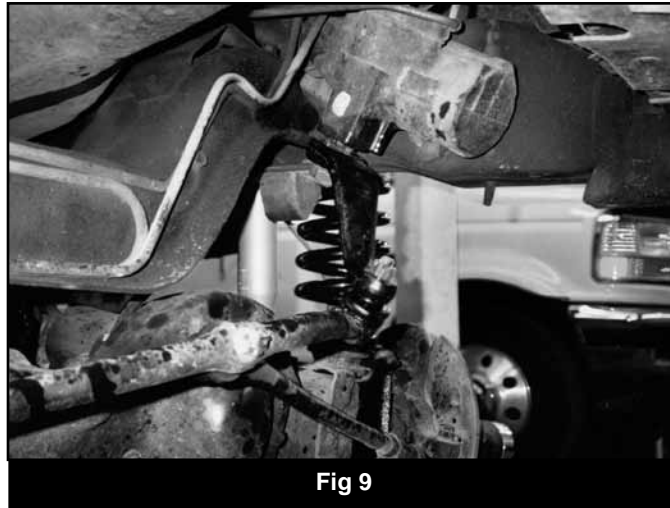

Fig 9
16. Remove the OEM pitman arm using an appropriate puller. Install new BDS pitman arm and torque to specification. Attach steering linkage to the pitman arm and torque according to OEM specification. Be sure to install new cotter key. [Fig. 9]